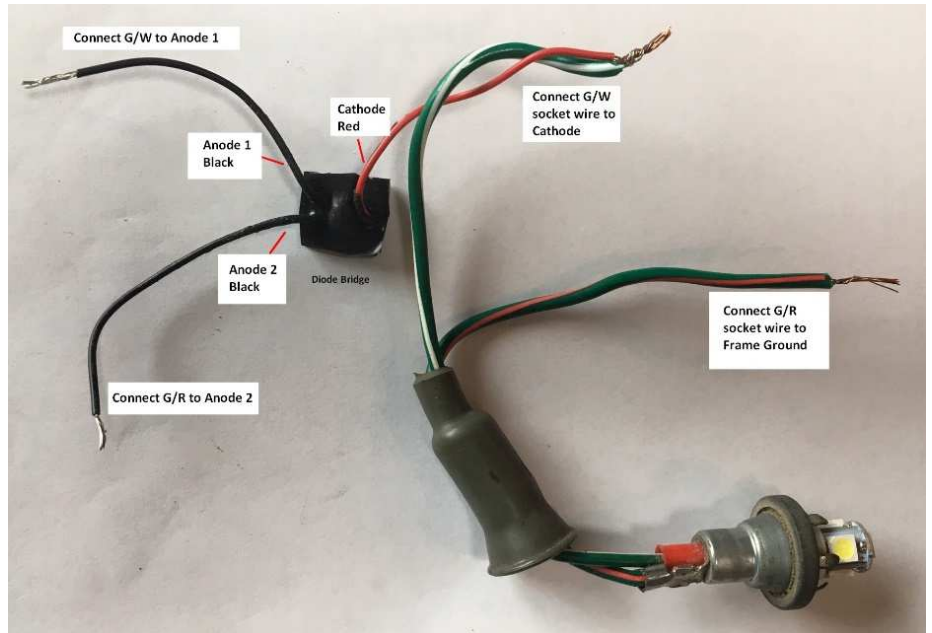

Figure 6
4. Connect center conductor of socket which is Green/White to red wire (cathode) of diode bridge Fig 6.
5. Connect diode bridge black wires to the turn switch wires that were cut under dash - anode 1 black to Green/White and anode 2 black to Green/Red Fig 6